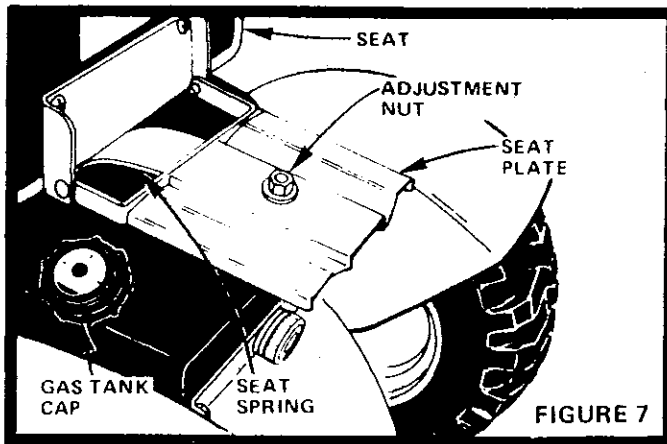

FIGURE 7
- Seat position may be adjusted forward or backward by loosening Nut in Seat Plate (Fig. 7). NOTE: WHEN RE-TIGHTENING NUT AFTER ADJUSTMENT, MAKE SURE SEAT PLATE HAS NOT TWISTED OUT OF ALIGNMENT WITH SEAT SPRING.
- Fill Fuel Tank (Fig. 7) with fresh regular grade lead-free or leaded gasoline. Capacity is 3 - 1/4 gallons. NOTE: DO NOT SWITCH FROM LEADED TO LEAD-FREE GASOLINE.